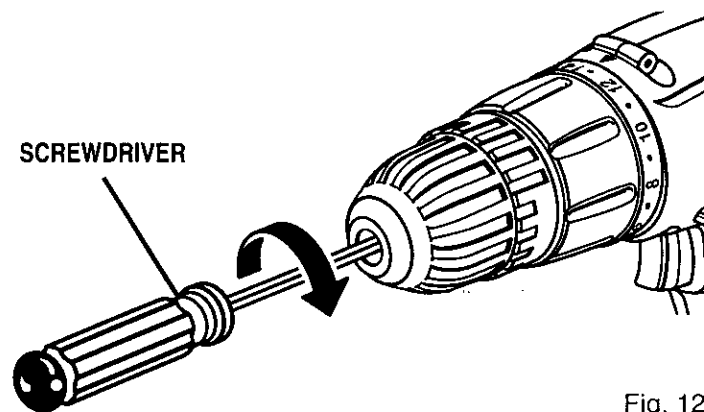

Fig. 12
- Open chuck jaws and remove hex key. Remove the chuck screw by turning it in a clockwise direction. See Figure 12.